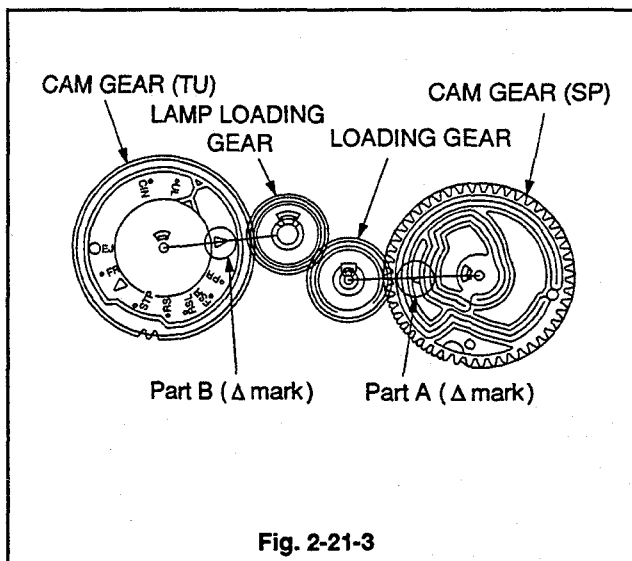

Fig. 2-21-3
2. Set the CAM GEAR (SP), shown in Fig. 2-21-3, so that the Δ mark on the Part A of it points to the centre of the LOADING GEAR.
3. Install the CAM GEAR (TU), shown in Fig. 2-21-3, so that the Δ mark on the Part B of it points to the centre of the LAMP LOADING GEAR.